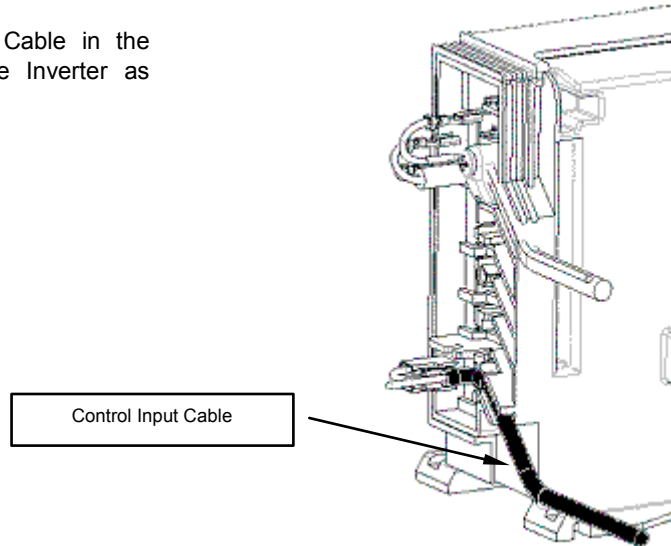

Figure 28 – Control Input Cable positioning.
- 2.** Put the Control Input Cable in the appropriate location on the Inverter as indicated by the Figure 28.